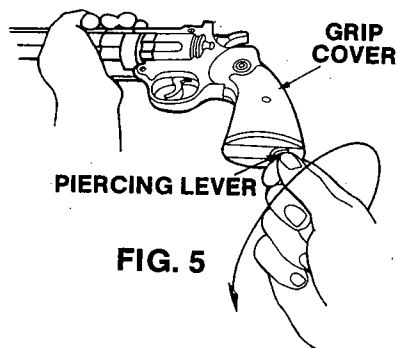

FIG. 5
- C. With one hand hold the revolver by the barrel. With the other hand turn piercing lever counterclockwise until it stops turning. (Fig. 5.)